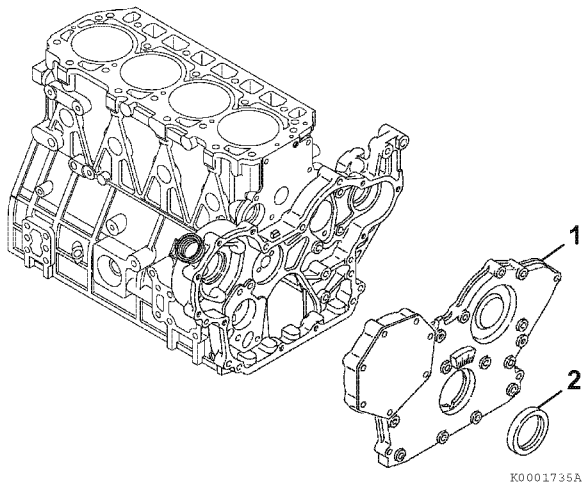

Figure 6-111
1. Remove the seal (2, **Figure 6-111**) from the cover (1, **Figure 6-111**).
2. Apply a continuous bead of ThreeBond Liquid Gasket No. 1212, YANMAR Part No. 977770-01212 to the outside diameter of a new oil seal (2, **Figure 6-111**), and install in the gear case cover. Apply lithium grease to the lip of the seal.